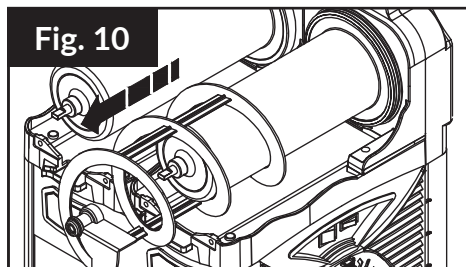

Fig. 10
3. Gently pull on the spiral blades to remove from the cylindrical evaporators. (Fig. 10)